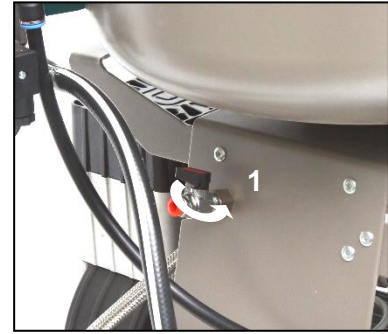

Fig. 13
- Check the position of the breaker switch to ensure it is in the "I" position. Turn the breaker switch (4) to the "I" position if it is found in the "0" position. (Fig. 13)
- Turn the switch (5) on the front side of the cabinet to the "I" position; a green indicator indicates the device is in operation. (Fig. 13)
Compressor shut-down for either service or any other reason is performed at the pressure switch (1) by turning the alternation switch (2) to the “0” position and **pulling the mains plug from the socket**. This disconnects the compressor from power supply. Vent the pressure in the air tank to zero by opening the drain valve. (Fig. 13)
#### Compressors (Fig. 13)
If the compressor will not be used for a prolonged time period, drain all condensate from the air tank. Then turn on the compressor for 10 minutes, keeping the drain valve open (1) (Fig. 13). Switch off the compressor using the switch (2) at the pressure switch (1) (Fig. 12), close the drain valve and disconnect the device from the mains.
- Release air pressure in the pressure tank by opening the drain valve (1) (Fig. 13).